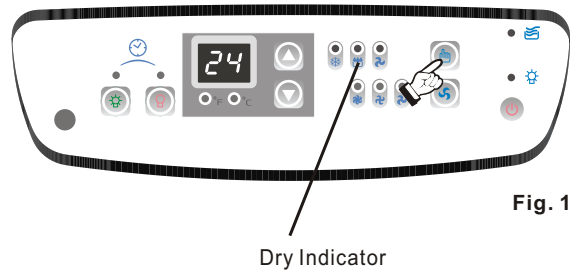

Fig. 15
- 2) Press the **MODE** key until the **DRY** indicator light comes on (Fig.15). Each depression of the **MODE** key will advance to a different mode setting (**Cool-Dry-Fan**).